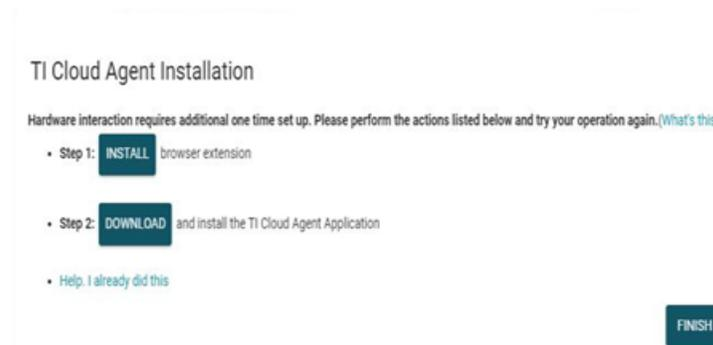

Figure 4-1. Browser Extension and TI Cloud Agent Installation
3. First-time users may be prompted to download and install the browser extension for Firefox™ or Chrome™ and the TI Cloud Agent application as shown in Figure 4-1. Installing the TI Cloud Agent is a one-time download and installation.